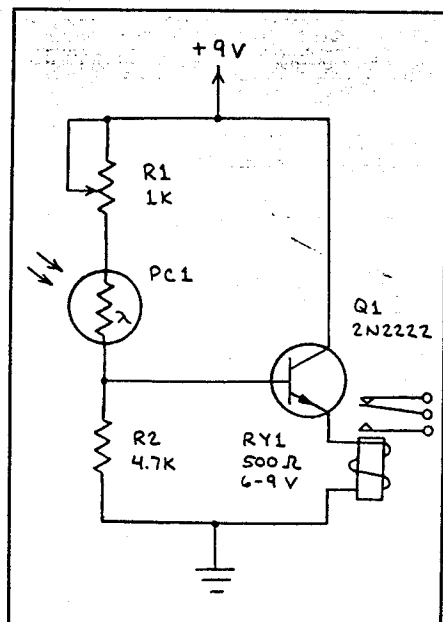

Fig. 10. A light-activated relay.
• **Light-Activated Relay.** Many kinds of light-activated relays can be made using photoresistors. Some relays can be driven by nothing more than a photoresistor and a power supply. However, a gain stage provides greater sensitivity. For example, Fig. 10 shows a straightforward light-activated relay that uses a single transistor to increase sensitivity. Relay  $RY1$  is a Radio Shack Cat. No. 275-004 device. Potentiometer  $R1$  controls sensitivity.